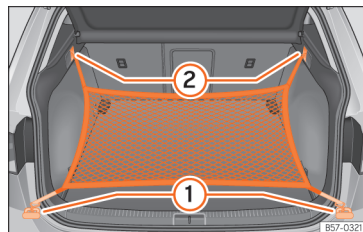

Fig. 179 In the boot: rings ① and hooks ② for attaching the net bag.
- Secure the short net hooks to the fastening rings »» Fig. 179 ① »» ⚠. The bag zip should be facing upwards.
- Secure the straps in the bag hooks ②.